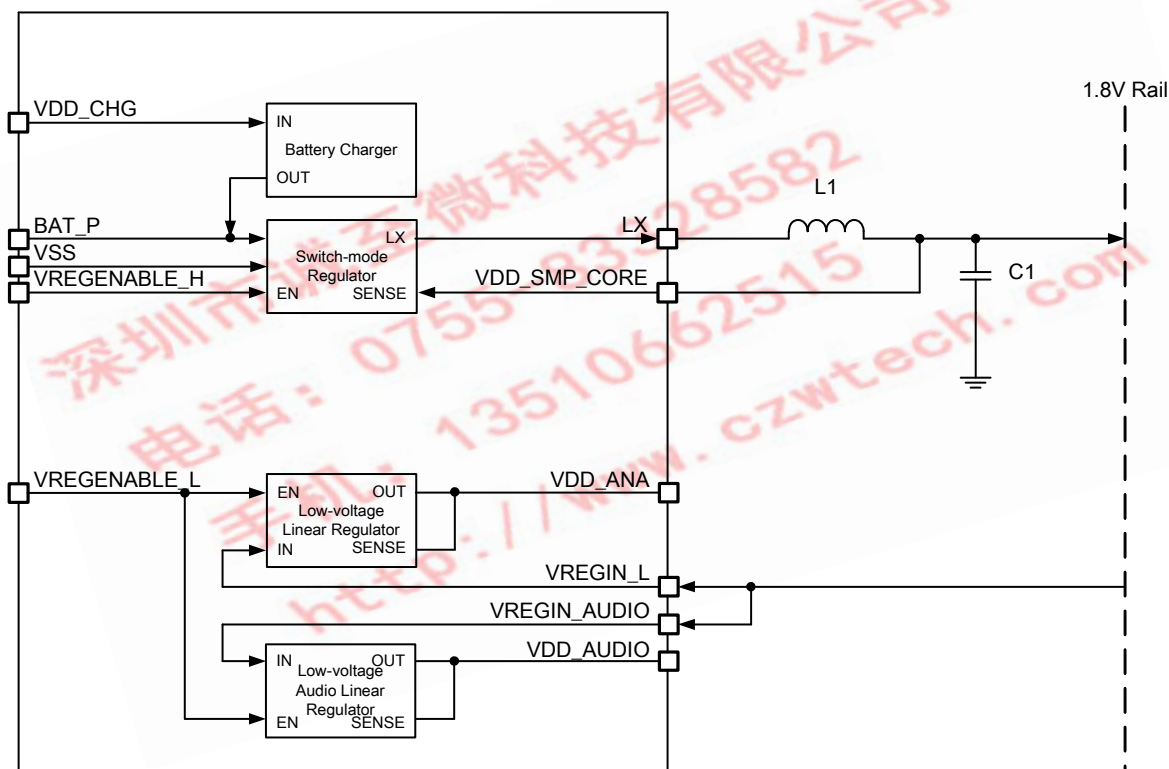

Figure 11.1: Voltage Regulator Configuration
- Powered from the switch-mode regulator and the low-voltage linear regulators in series, as Figure 11.1 shows